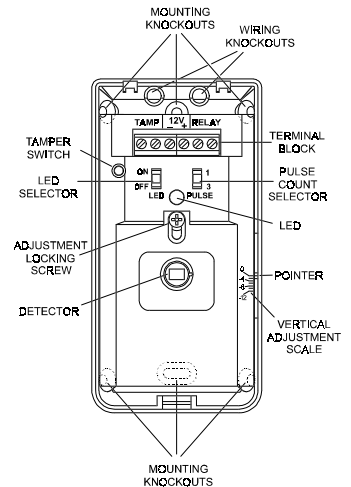

Figure 5. IRIS Layout
- A. Reinstall the electronic magazine into the rear cover. Loosen the PCB locking screw slightly and slide the PCB downward in order to expose the wiring knockouts (see figure 5).
The LED switch selector has two operating modes (see Fig. 5).
- D. Make sure that the LED selector is set to ON (Fig. 5).